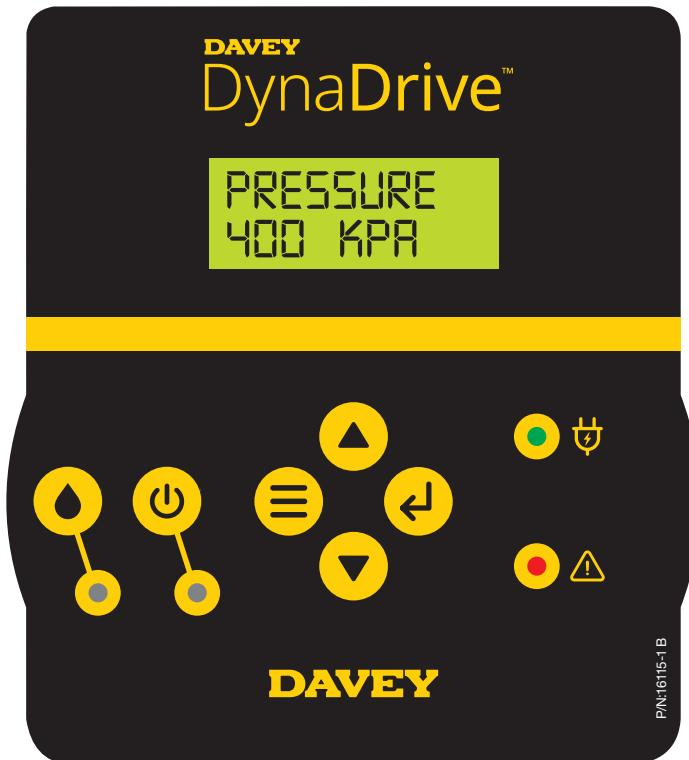

Figure 7.4
- Once the motor has slowed to a stop, press and hold the  **Menu button** and  **Enter button** for ~ 5 seconds. The display will change to show your current set pressure, see figure 7.4;